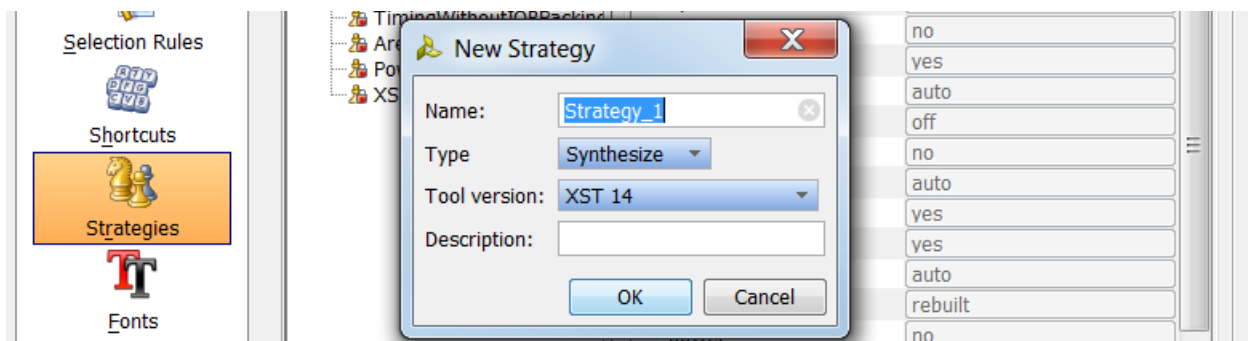

Figure 3: New Strategy Dialog Box
You can also define your own strategy. When you select a synthesis strategy, available Vivado strategy displays in the dialog box. You can override synthesis strategy settings by changing the option values as described in Creating Run Strategies, page 11, and shown in Figure 3, page 11.
- Click the **Create New Strategy** button  under the flow options to open the New Strategy dialog box, as shown in Figure 3.